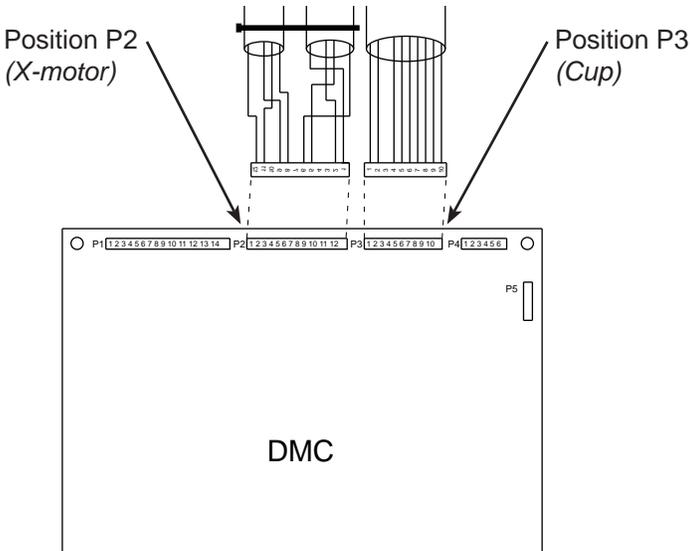

Figure 2.
4. Remove the seven screws that secure the harness retainer. Then, remove the harness retainer. (See Figure 2.)